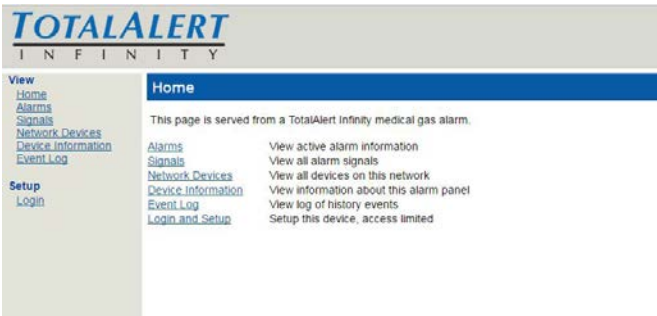

Figure 258
3. After you enter the IP address, the alarm's home page will be displayed. (See Figure 258)